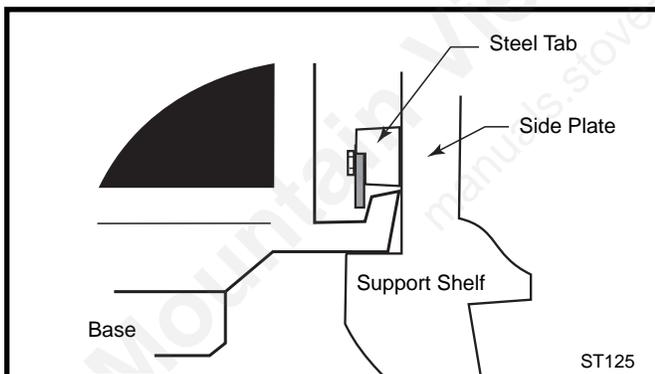

Fig. 16 Install firebox assembly.
2. Lift the firebox assembly and slide it back into position in the shell. The base of the firebox should rest on the side support shelves as in Figure 16.
A pair of steel tabs will engage a mating rib on the top side of the outer edges of the firebox base as shown in Figure 16. Properly positioned, the firebox will be level and locked in place. If not, adjust the levelling screw in the foot of each leg as needed.